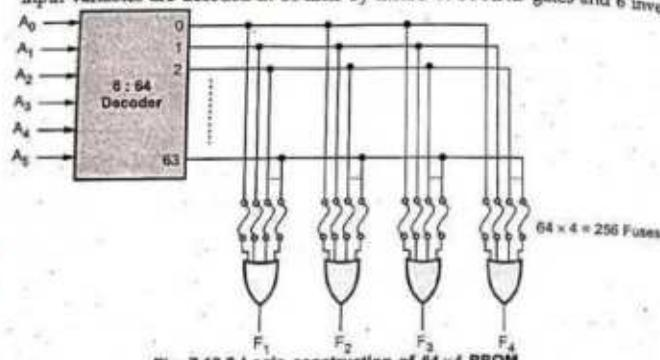

Fig. 7.12.2 Logic construction of 64x4 PROM
- The Fig. 7.12.2 shows the internal logic construction of a  $64 \times 4$  PROM. The six input variables are decoded in 64 lines by means of 64 AND gates and 6 inverters.